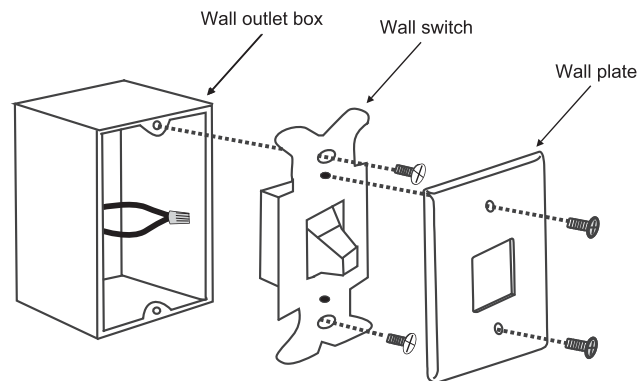

Fig. 22
Step 1. Remove the pre-existing wall plate and wall switch from pre-existing wall outlet box. Disconnect wires from switch. Wire nut the BLACK leads (hot) together, and push wires back inside the wall outlet box (**Fig. 22**). Or select a desired location with a new outlet box.